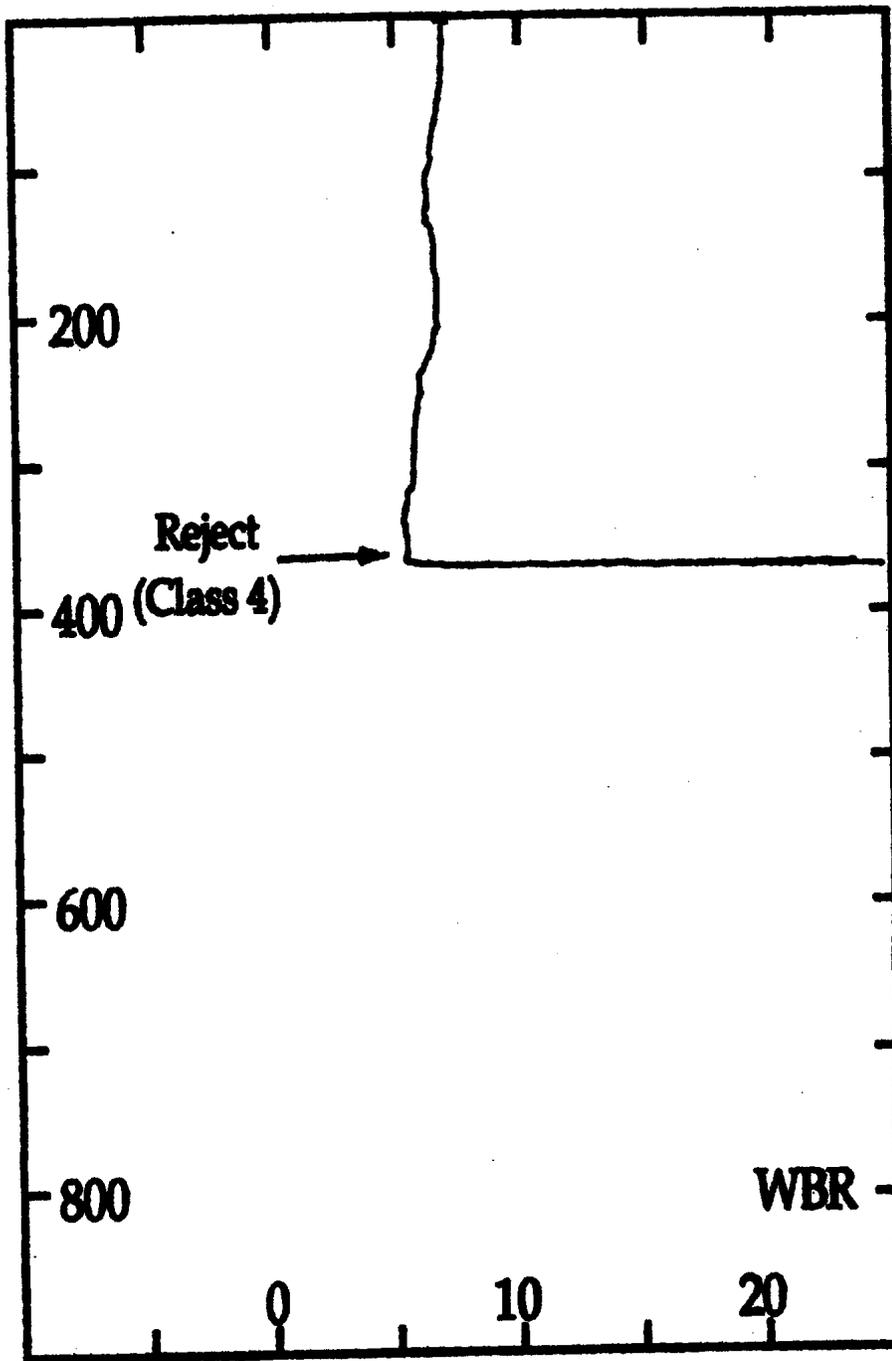

Figure 8k. Wire Break Reject from Probe Spool (WBR)
- Fig. 8k:** The WBR flag is used if the bottom of the XBT profile exhibits a sudden deflection to the high or low temperature end of the scale.